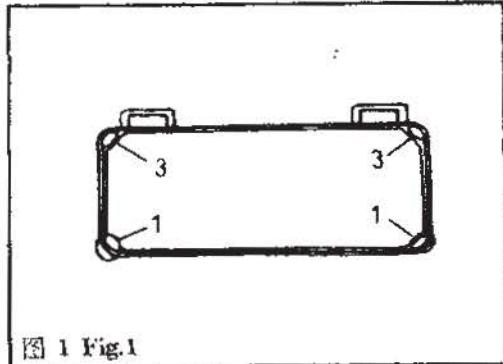

图 1 Fig.1
将两只油盘支座 1 和两只油盘座垫 3 分别装在台板凹槽的四角，用油盘座钉 2 固定之，再装上油盘 4。 (图 1, 2)
Put the oil rubber cushions (1) and oil pan felt cushions (3) separately on four corners of notch of the table, fix them with the screw of oil pan(2), then install the oil pan(4). (Fig.1,2)